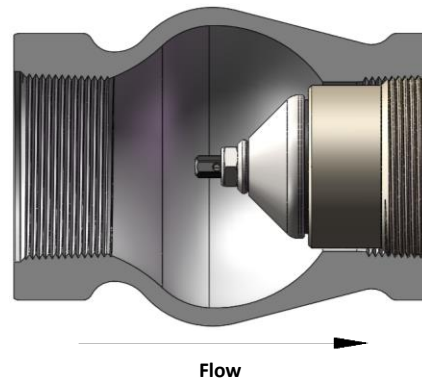

Figure 2: Threaded bell housing installed
1. Apply Loctite #565 or equivalent NPT thread sealant to threads of bell housing; install bell housing onto internal valve as shown in Figure 2.